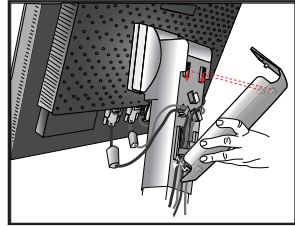

Figure 8
6. Hold all of the cables firmly and place the cable cover onto the stand (Figure 8).